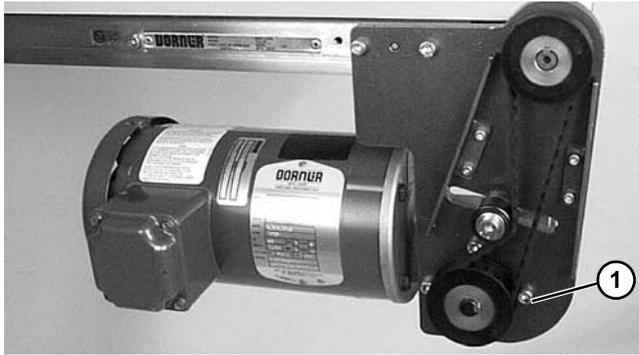

Figure 28
- Remove four (4) gear reducer mounting screws (**Figure 28, item 1**). Remove gearmotor and gearmotor adapter.
11. Install gearmotor to mounting bracket and tighten screws (**Figure 28, item 1**) to 103 in-lb (12 N-m).